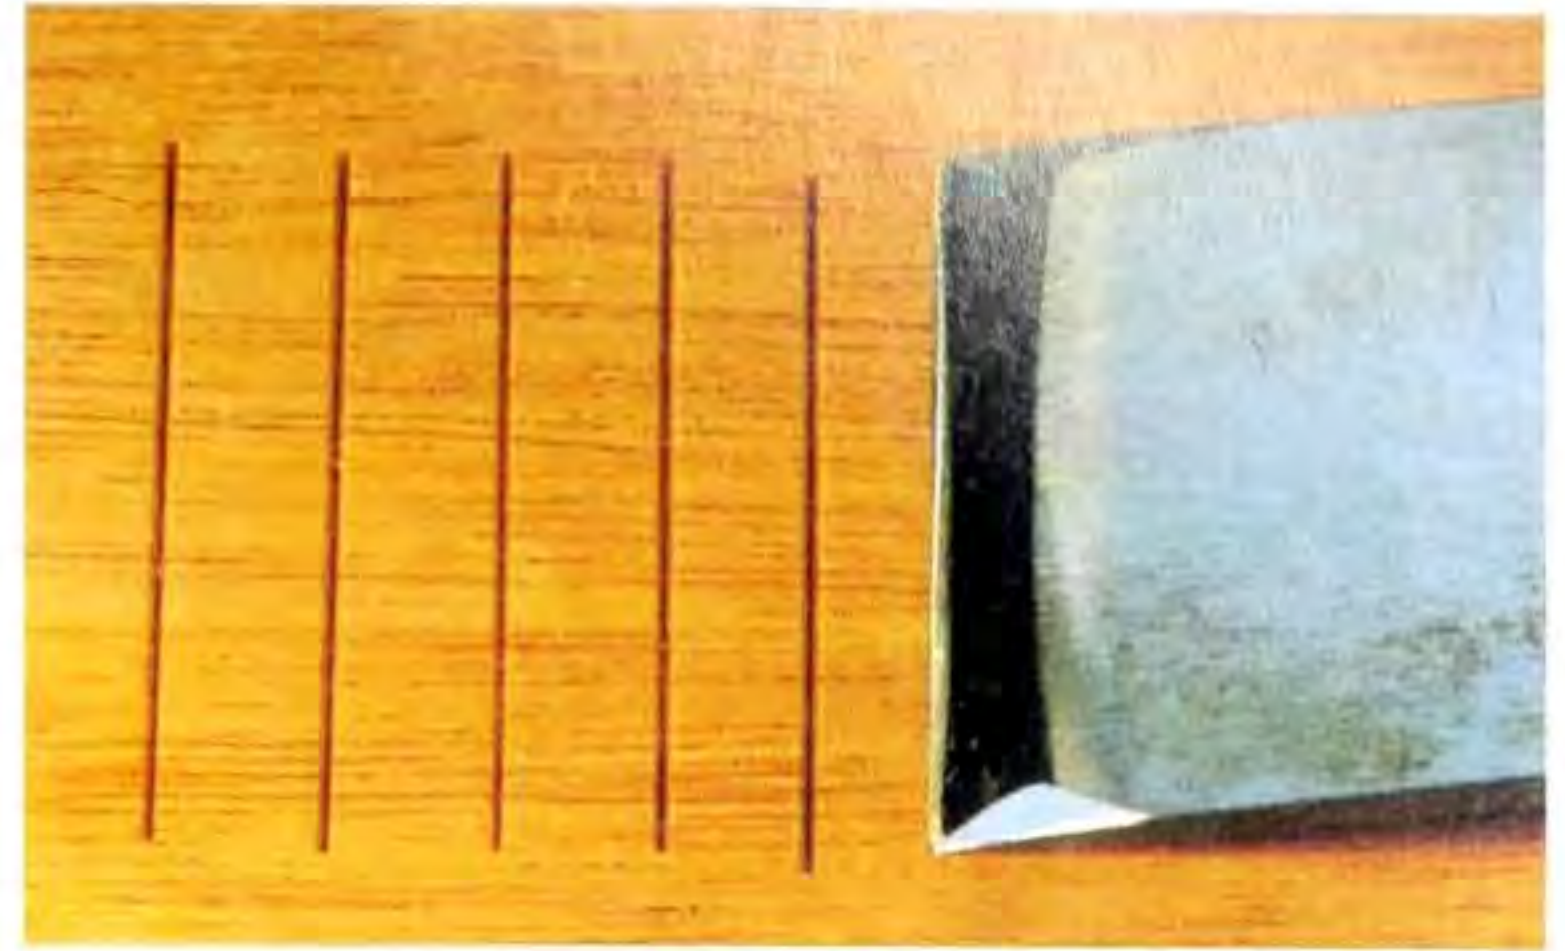

Fig 5.6 Practise until you can create a series of neat stab cuts like these.
This simple exercise will help you to develop your hand and eye, and forms the basis of what follows, so if you are not used to such mallet work, you need to do a lot of it – literally hundreds of repetitions, until the action feels comfortable (see Fig 5.6).
- Orientate the chisel edges in varying directions, trying to lay several cuts down neatly side by side, as shown in Fig 5.6.